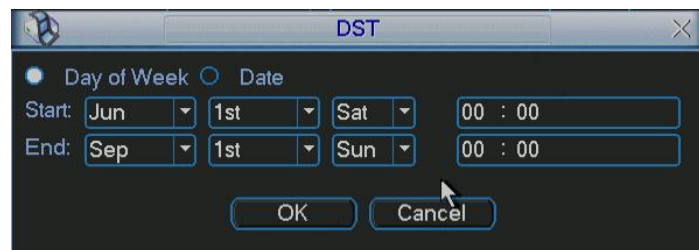
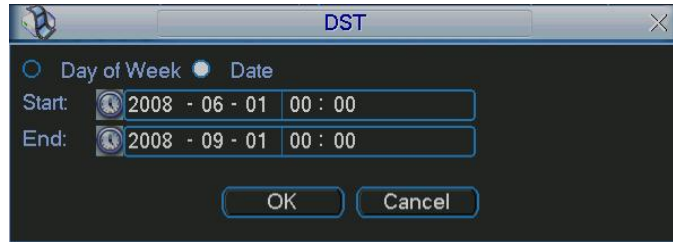

Figure 5-4
Figure 5-5
- **DST:** Here you can set DST time and date. Please enable DST function and then click set button. You can see interface as shown in Figure 5-4. Here you can set start time and end time by setting corresponding week setup. In Figure 5-4, enable date button, you can see an interface as shown in Figure 5-5. Here you can set start time and end time by setting corresponding date setup.